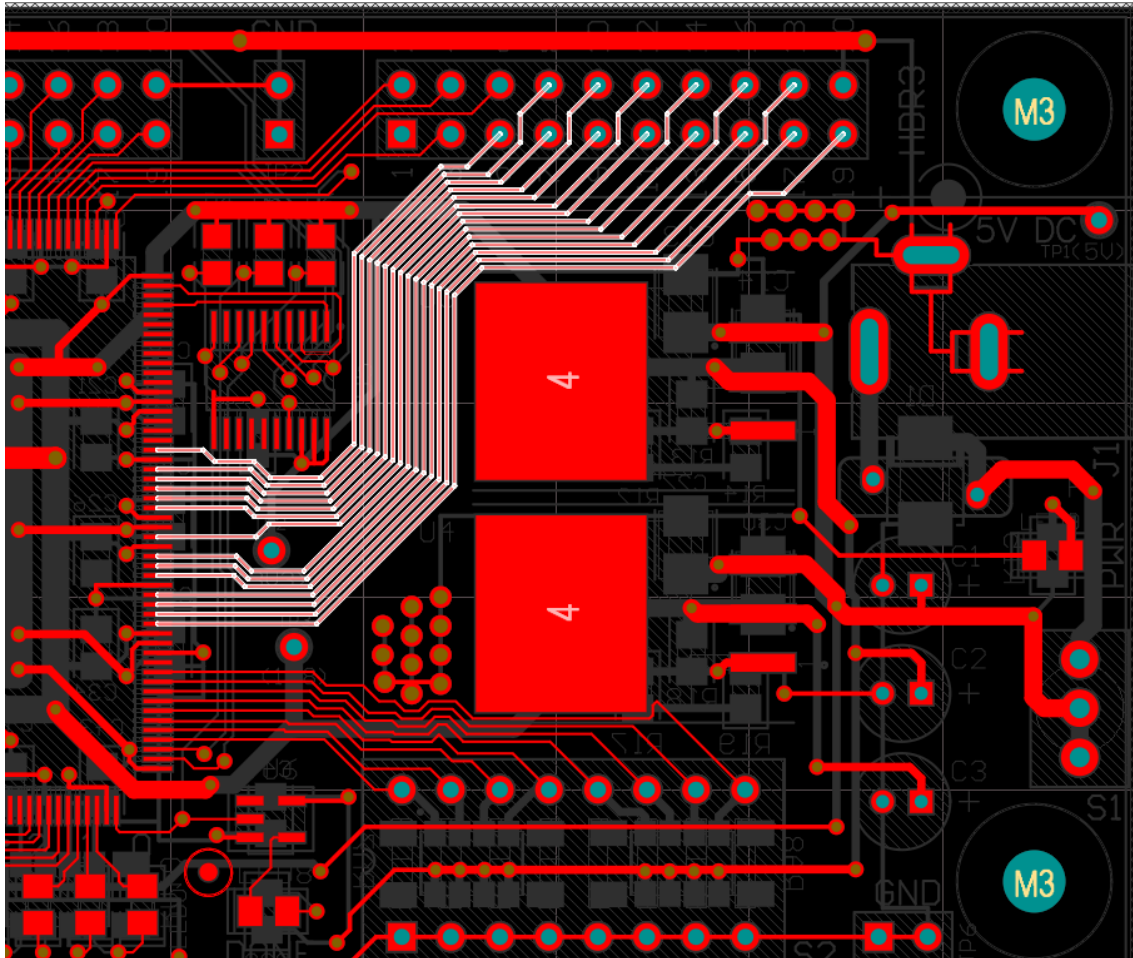

Figure 7. ActiveRoute with Gloss
25. Select the **ActiveRoute** button at the top right in the panel (or use **Shift+A**) to run the ActiveRoute on the selected connections. This will route the 14 nets on the Top Layer, Figure 7.